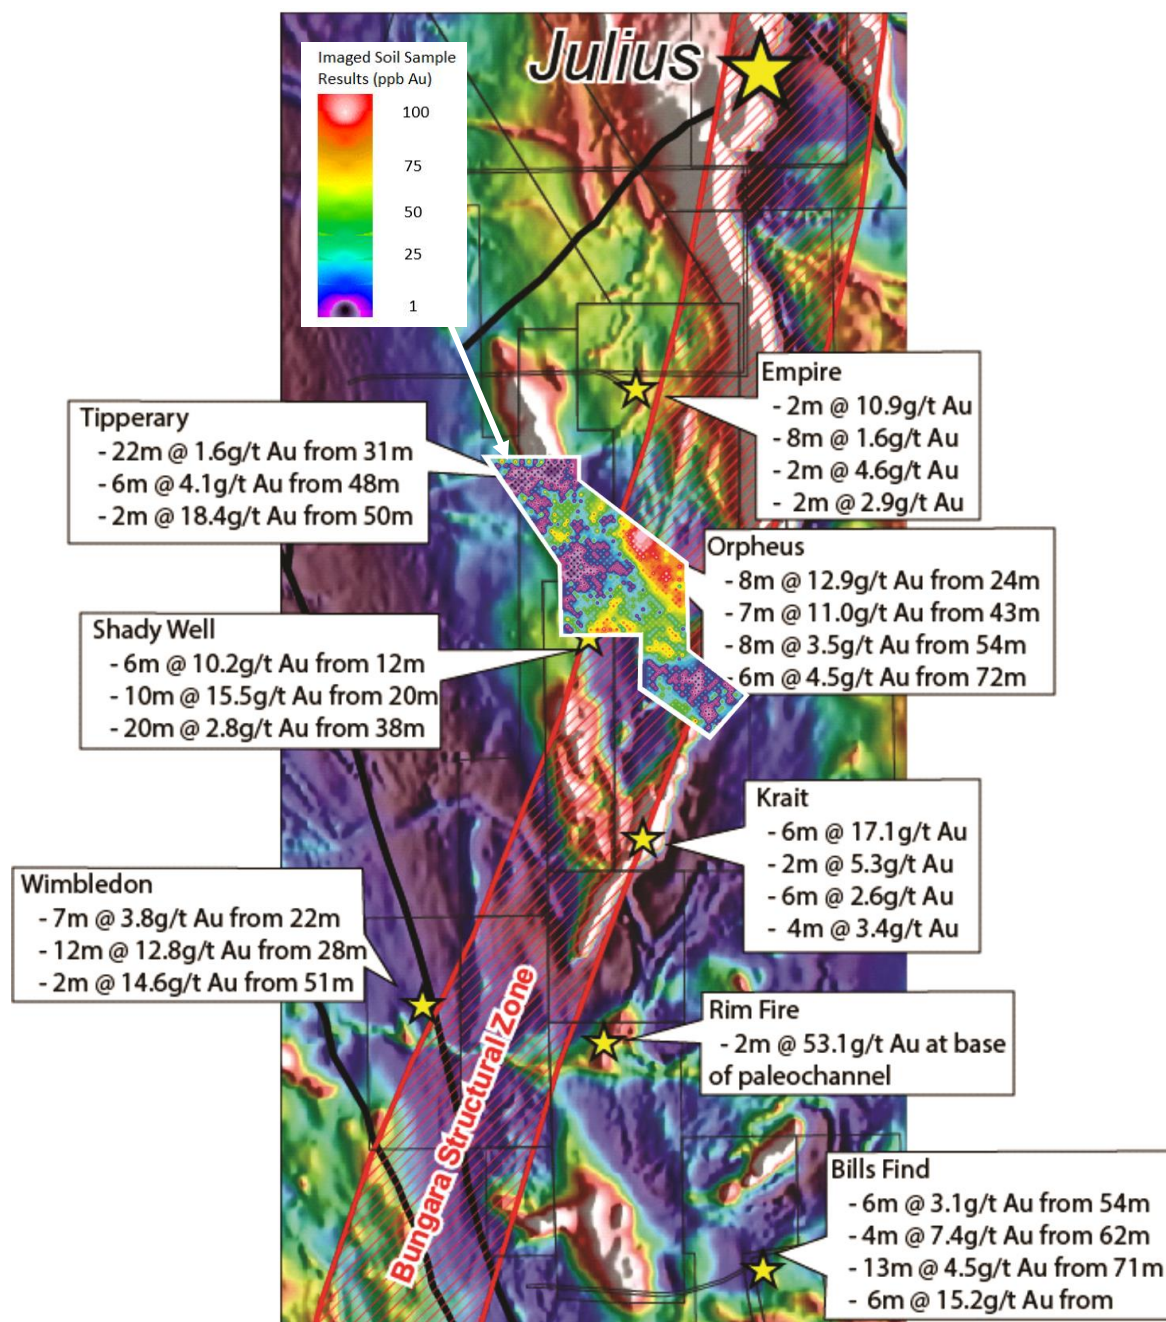

Figure 1: TP Magnetics Image with Soil Sample Area inset with historic drill results overlain1
- Discrete gold in soil anomalies have been defined in the vicinity of the Orpheus and Shady Well prospects (see Figure 1) where historic drilling has returned strong results, including:
Echo Resources Limited ("Echo", ASX: EAR) is pleased to announce that it has identified new gold anomalies as well as corroborated historical high grade drill intersects following a large and systematic soil sampling program 7 kilometres to the south of the Julius Gold Deposit (see Figure 1).
The area was targeted based on its location relative to the regional Bungara suture, a geophysical zone of disruption visible on both gravity and magnetic images. The Company has had historical drilling success on the margins of the suture which includes a number of prospects requiring further exploration as shown in Figure 1, below.